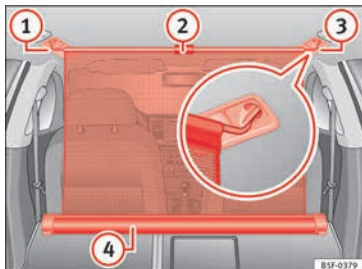

Fig. 168 In the luggage compartment: net partition hooked into the rear seat backrests.
- Pull up handle » **Fig. 168 ②** to remove the net from the casing » **Fig. 168 ④**.
- Hook in the net partition on the right side » **Fig. 168 ③** (magnified image).
- Hook in the net partition in the left side housing » **Fig. 168 ①** pulling the rod.
The net partition is properly assembled when the T-shaped ends are firmly secured in the corresponding housings » **Fig. 168 ③** and **①**.
- Roll up the net into the casing » **Fig. 168 ④** lowering it with your hand.